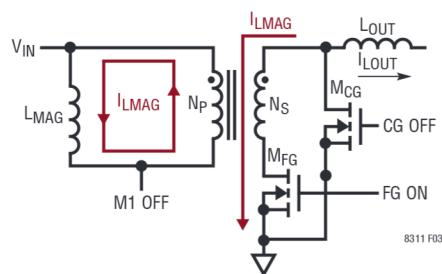

Figure 3. With FG On, I_{LMAG} Is Conducted Through M_{FG} to Ground on the Secondary Side When M1 Turns Off
the primary winding voltage gets smaller too, effectively moving SWP towards V_{IN} . Since M_{FG} is still on, and M_{CG} 's body diode is on, the secondary winding voltage gets clamped at about a diode voltage. Through transformer action, SWP gets clamped to approximately V_{IN} . I_{LMAG} flows in the secondary windings, as shown in Figure 3, flowing from the drain to source of M_{FG} , to ground. M_{CG} 's body diode sources I_{LOUT} and I_{LMAG} .
- Resonant Reset Case (blue waveform):** Resonant reset ultimately completes when SWP's quasi-sinusoidal waveform returns to V_{IN} , by which point I_{LMAG} is reset to a negative value. FSW is eventually clamped by M_{FG} 's body diode, and conducts I_{LMAG} , through the secondary windings, towards the output inductor (similar to Figure 3, but with I_{LMAG} direction reversed on primary and secondary sides). With a diode voltage imposed across the secondary windings, transformer action